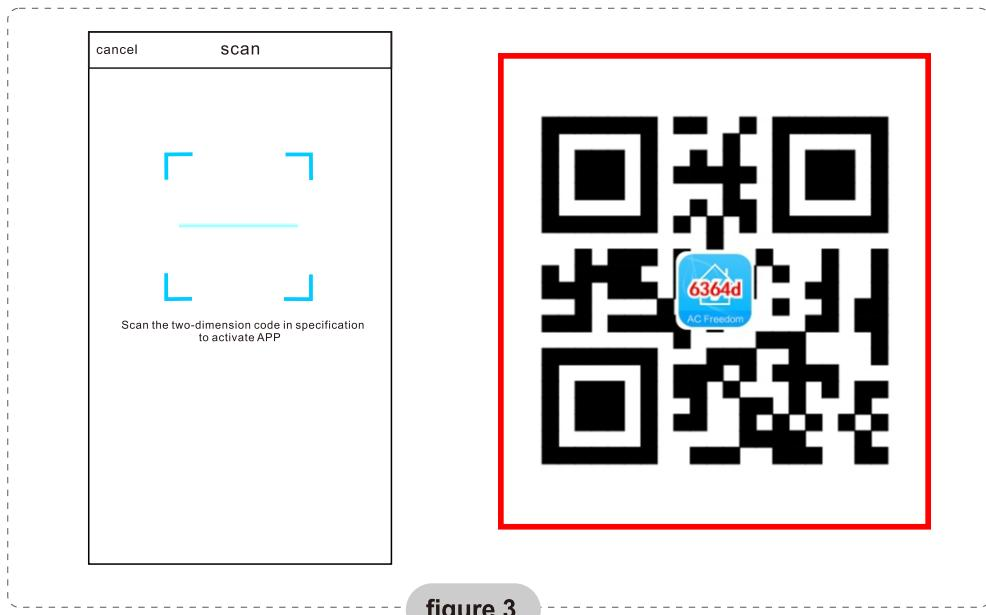

figure 3
1. By clicking "scan" and scanning the QR code on the right .(See Fig.3)